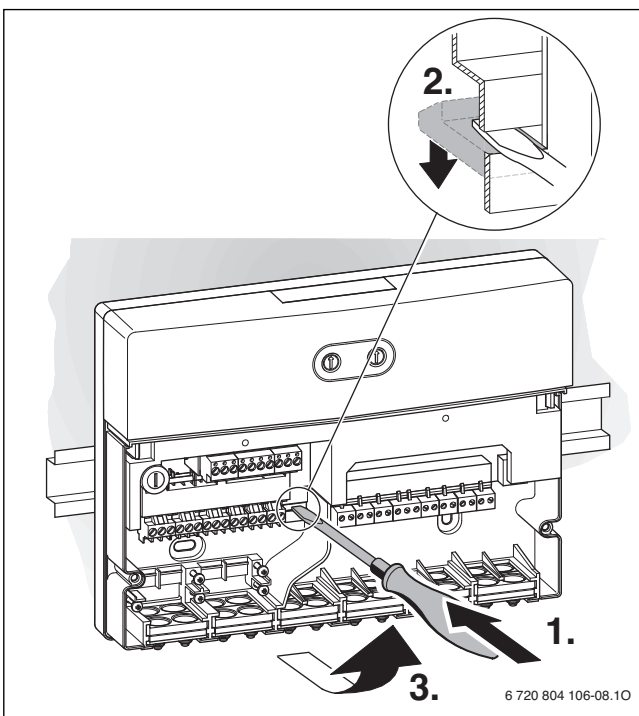

Fig. 8 Removal from DIN rail
- ▶ Observe fig. 8 when removing the component from the DIN rail.